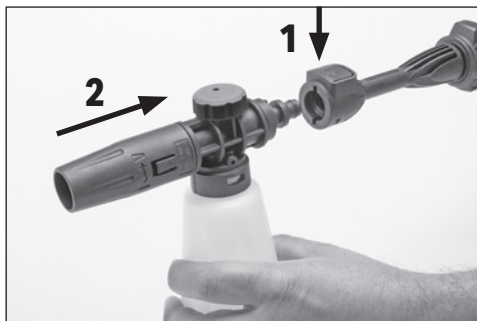

Fig. 11
8.4 Detergent bottle - Fig. 11.
- Use the detergent bottle (7) for deeper cleaning.